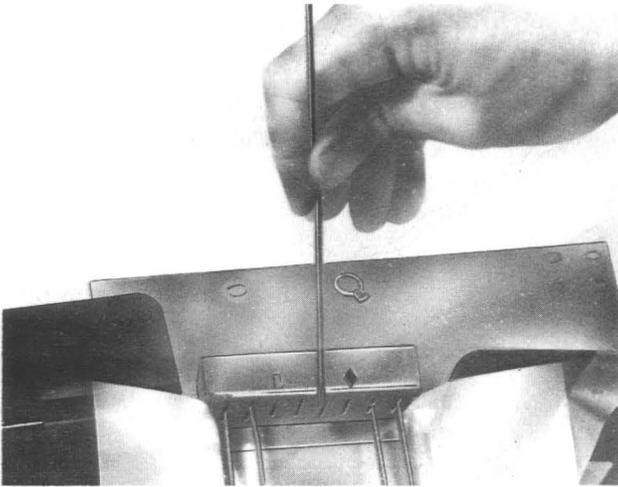

Fig. 23—Installing KS-21435, List 11 Support Rod
- 3.12 Five KS-21435, List 11 support rods are furnished with each facility. Install each support rod as shown in Fig. 23 and 24.